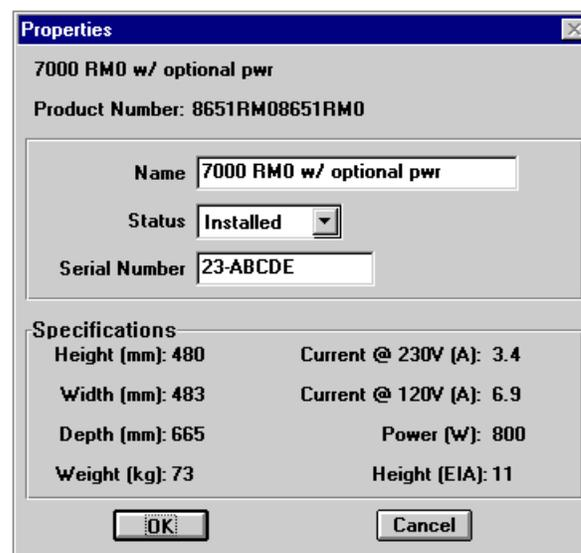

Figure 21. Server Properties Window
1. Ensure your server component has these settings: (see Figure 21)